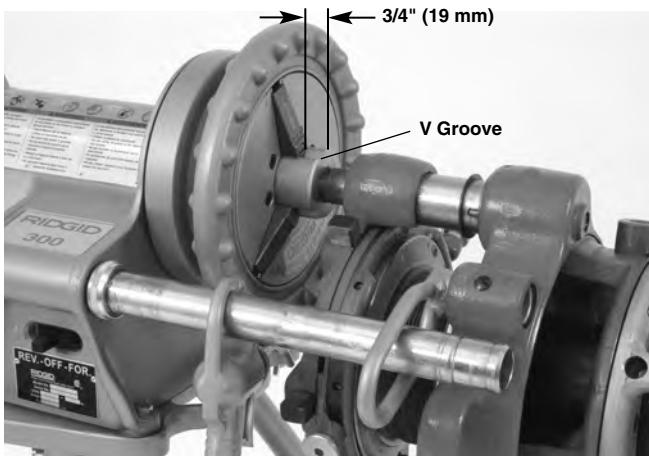

Figure 12 – Locating Drive Bar To Allow Oiling Space
- Use appropriate equipment to lift the geared threader and place over the end of the pipe orienting one jaw of work-holder upward. Lifting by hand must be done by at least two people utilizing the carrying handles. Be aware that the 141 weighs 93 pounds (42 kg) and the 161 weighs 158 pounds (72 kg). Leave approximately  $\frac{3}{4}$ " (19 mm) of the drive bar exposed in front of the chuck to allow space for oiling (Figure 12). Securely tighten chuck jaws into three "V" shaped grooves in the head of drive bar. Close the rear centering head onto drive bar. Make sure that the geared threader and power drive are stable and secure.
- Use appropriate equipment to lift the geared threader and place. Lifting by hand must be done by at least two people utilizing the carrying handles, be aware that the 141 weighs 93 pounds (42 kg) and the 161 weighs 158 pounds (72 kg). Leave approximately  $\frac{3}{4}$ " of the drive bar exposed in front of the chuck to allow space for oiling (Figure 12). Securely tighten chuck jaws into three "V" shaped grooves in the head of drive bar. Close the rear centering device onto drive bar. Make sure that the geared threader and power drive are stable and secure.